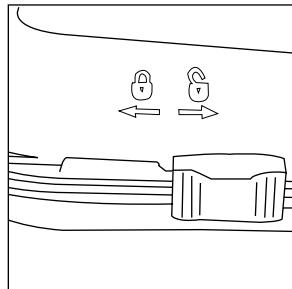

Figure 6
2. Disassemble the humidifier chamber by moving each of the slide latches (**Figure 6**) to the unlocked (  ) position and separate the chamber lid from the chamber base.
2. Assemble the chamber lid to the chamber base by first ensuring that each of the slide latches are in the unlocked (  ) position (**Figure 6**).